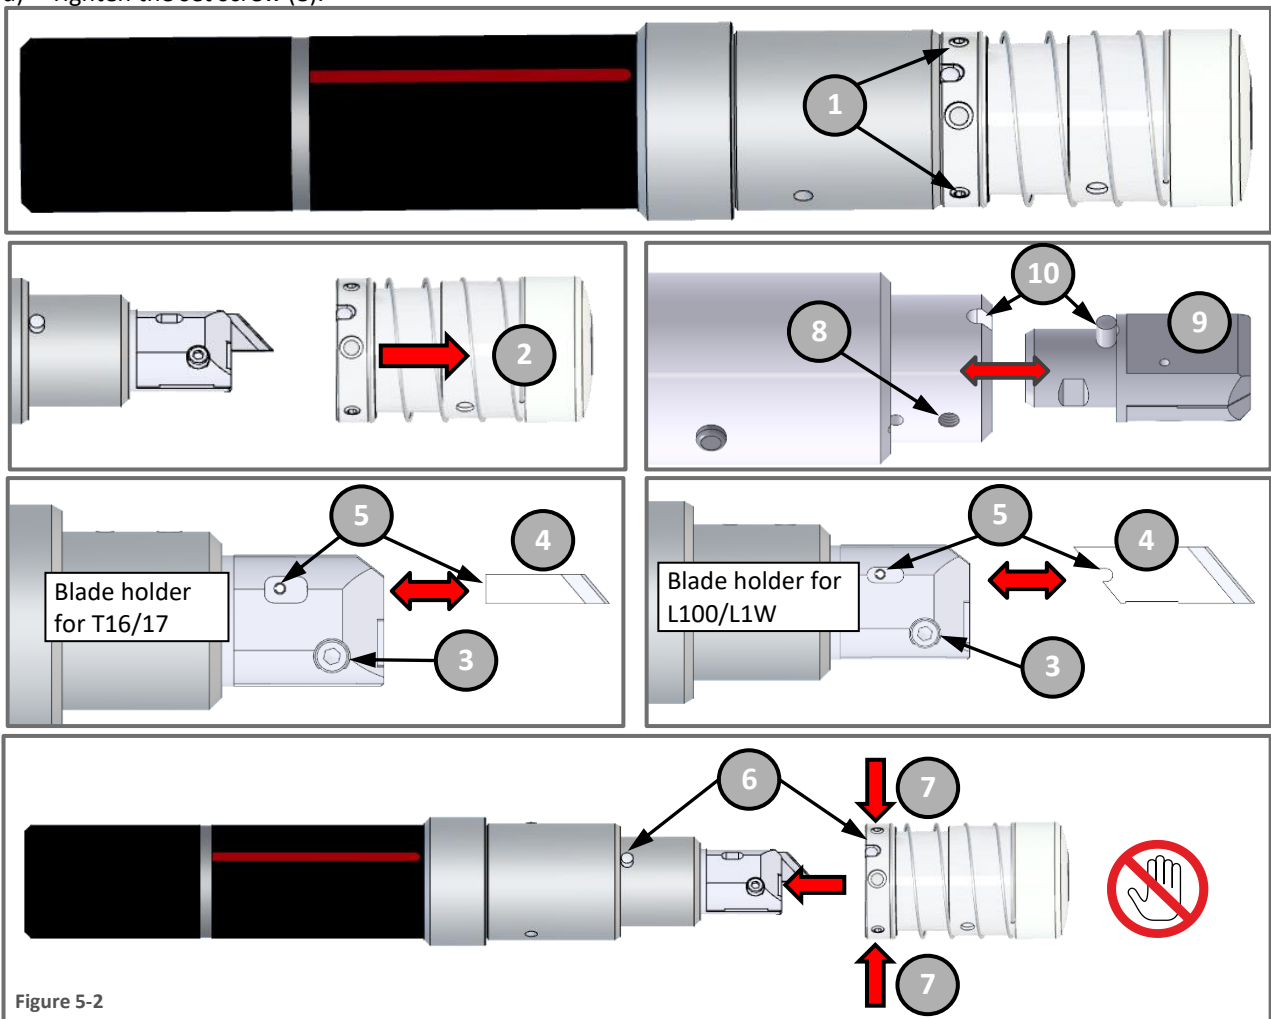

Figure 5-2
a) Loosen the locking set screws (1) and remove the gliding pad (2) Figure 5-2.
b) Loosen the set screw (8) and remove the blade holder (9).
c) Insert the new blade holder with the reference pin (10) oriented as shown in the figure and make sure it is inserted all the way in.
d) Tighten the set screw (8).